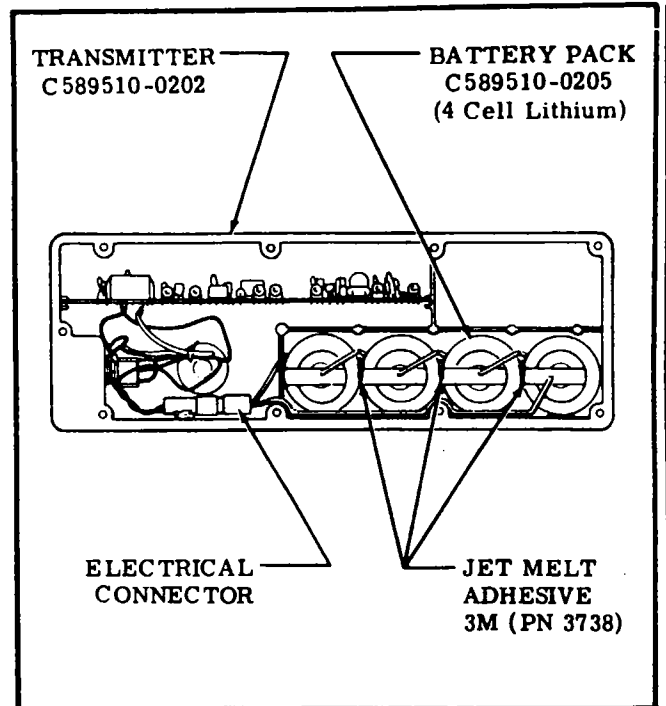

Figure 16-20. Lithium 4 Cell Battery-Pack Installation
- d. When replacing a 6 cell magnesium battery-pack with a 4 cell lithium battery-pack, merely disconnect the old battery-pack and replace with a 4 cell battery-pack, as shown in figure 16-20.
16-103. REMOVAL AND INSTALLATION OF LITHIUM FOUR (4) CELL BATTERY-PACK. (Refer to figure 16-20.)
d. Place new battery-pack in the transmitter with four batteries as shown in the case in figure 16-20.
e. Connect the electrical connector as shown in figure 16-20.